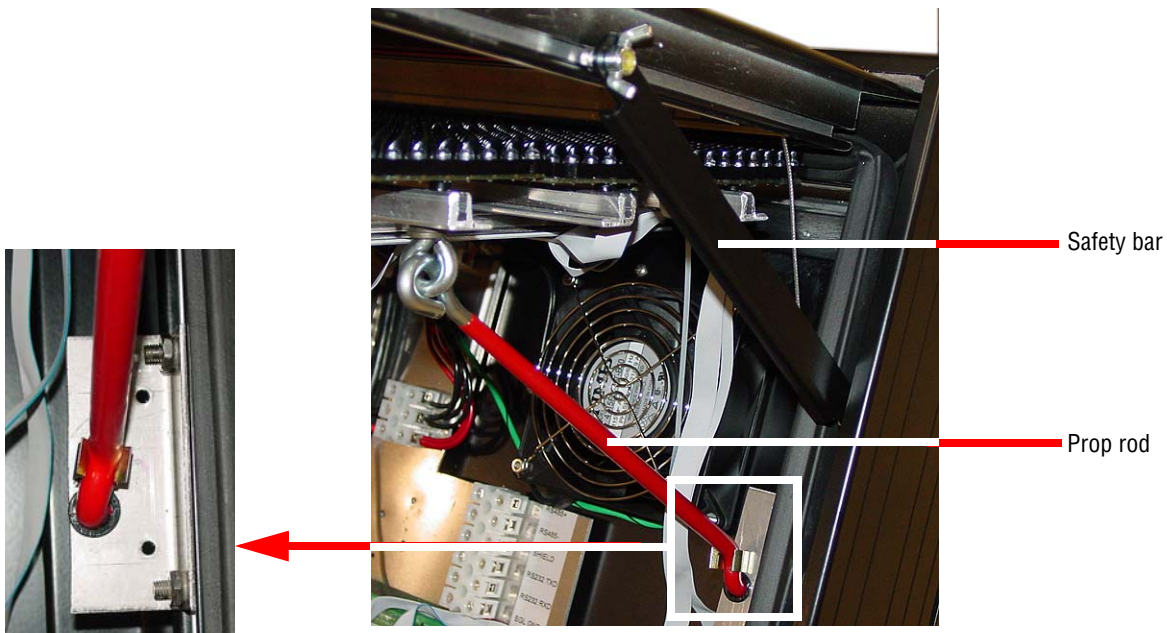

Figure 15: Safety bar and prop rod
3. Stand away from the front of the unit. Then lift the door upward. Swing each safety bar up and attach it to the bolt inside the sign using the supplied wing nut. (See Figure 15 on page 35.)